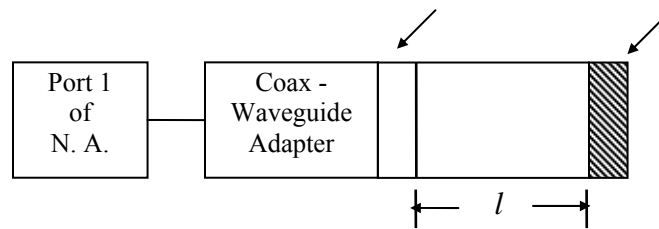

Fig.2 Block Diagram of Waveguide Frequency Meter
2. Using the average susceptance values, calculate the resonant frequencies of each frequency meter to be built from an iris and a short. The length of the waveguide to be used for constructing the filters must be measured. The system is shown in Figure 2.